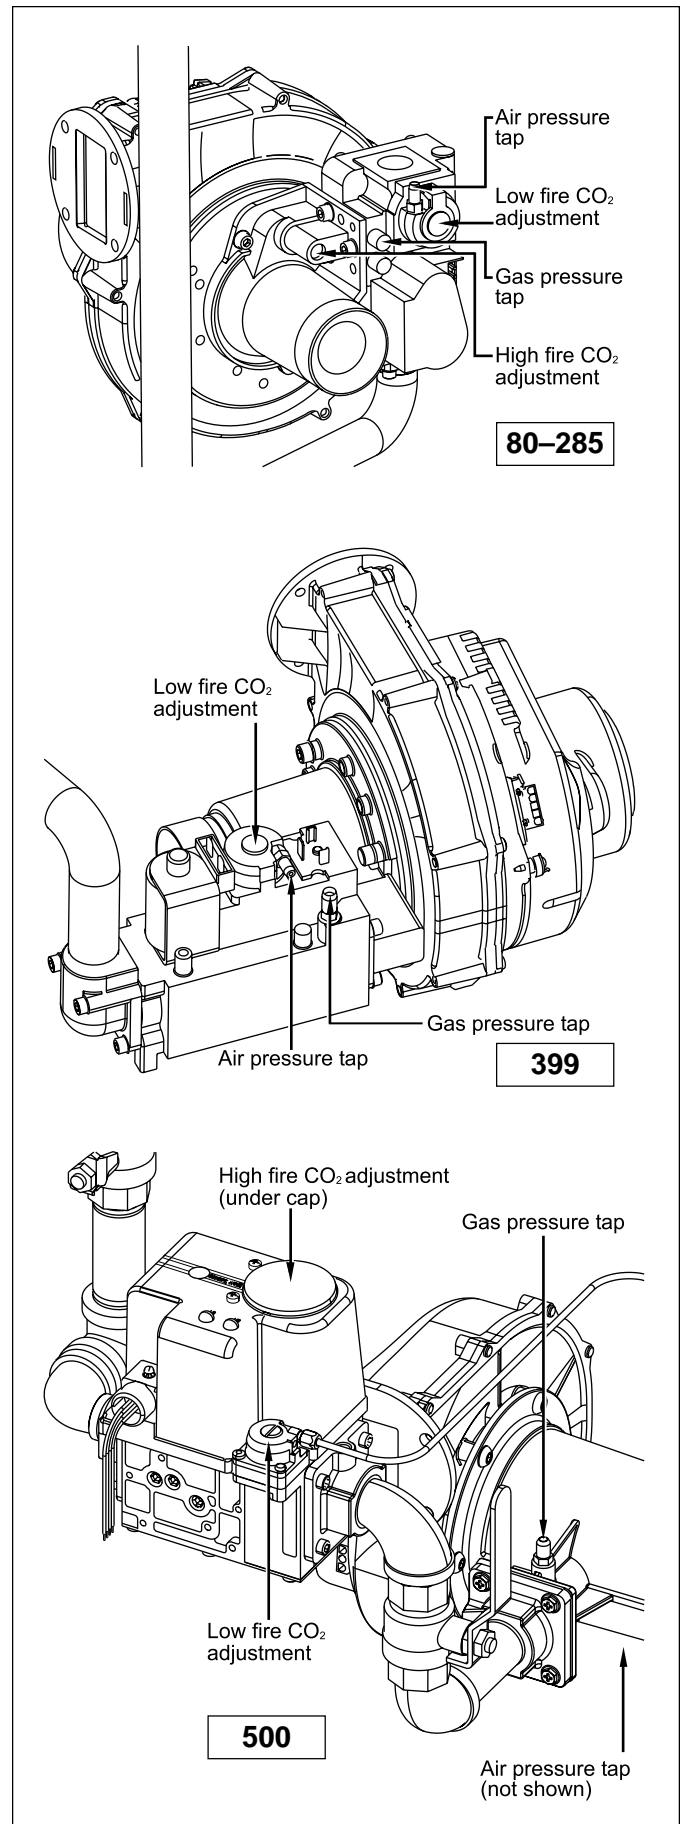

Figure 21. NeoTherm Gas Valves (285, 399 and 500).
1. Connect a manometer capable of reading $-.005''\text{wc}$ to the gas valve locations shown in Figure 21. The positive side of the manometer should be connected to the location labeled "air pressure tap." The negative side of the manometer should be connected to the location labeled "gas pressure tap." This differential pressure should be slightly negative (see Table 13).